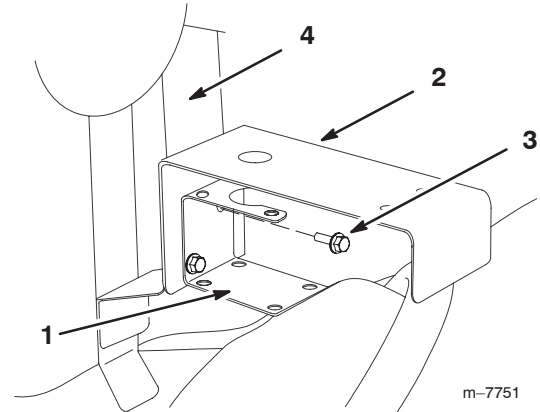

Figure 6
7. Install the control valve bracket between the supply tee bracket and the vehicle (Fig. 6).
8. Secure the supply tee bracket and control valve bracket to the mounting frame using the bolts you removed in step 6 (Fig. 6).